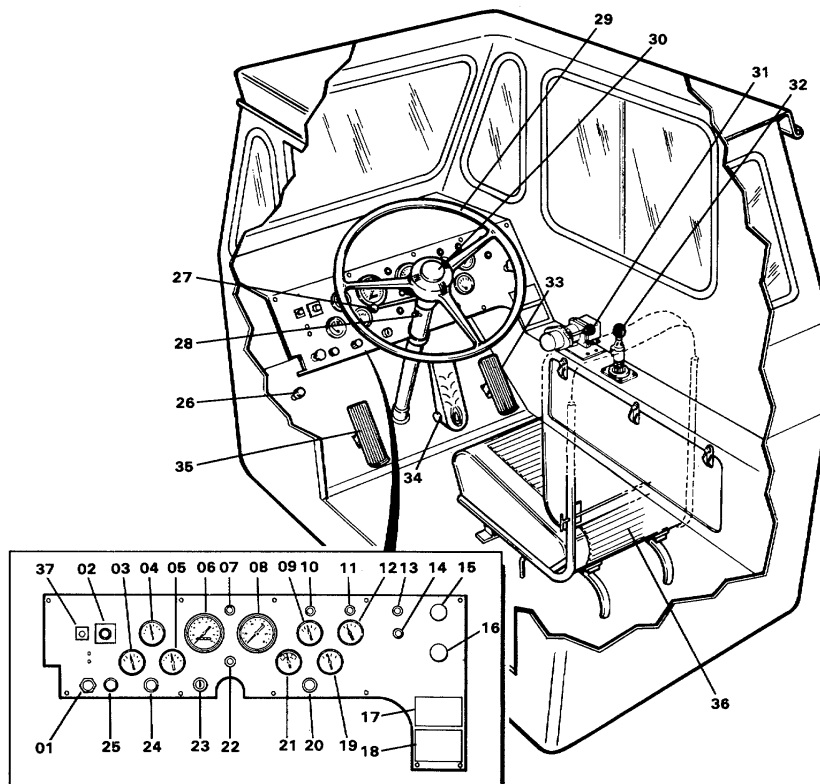

Figure 2-1. Carrier Controls
The instruments and controls in the cab of the carrier are shown in Figure 2-1. The numbers on this figure correspond to the numbers on the following list, which identifies the controls and describes their function.
5. If brake air pressure is lost for any reason, the Maxi brakes will set. To move the carrier in this event, refer to the descriptions of the Maxibrake control valve (item 16, Figure 2-1) and the emergency release valve (15). Observe the "Caution" following the release valve description.